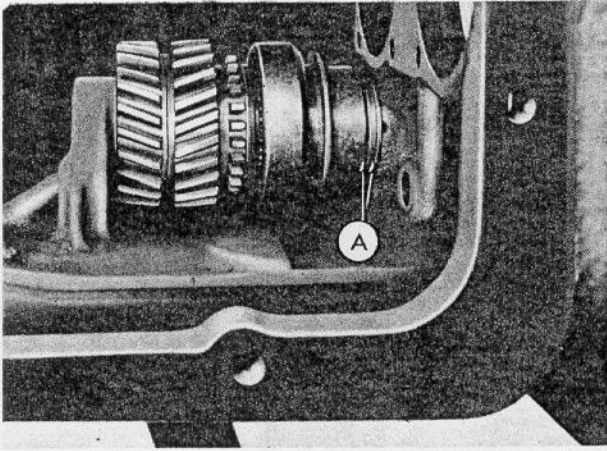

Fig. 7
**Step 9**—Remove the reverse idler assembly (Figure 7).
**Step 10**—Remove the washer and spacer (A-Figure 7).